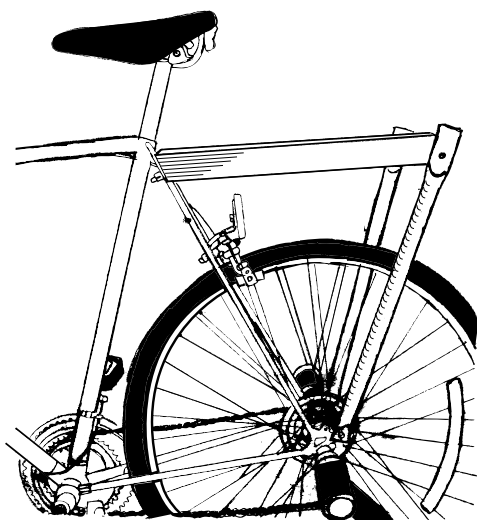

Figure 3.3 Attached Blender Shelf
35. Use the 2"-long wood screws to tighten the top ends of the conduit against the sides of the wooden shelf. The shelf should now be securely fastened to the frame of your stationary pedal-powered drive, as shown in Figure 3.3.